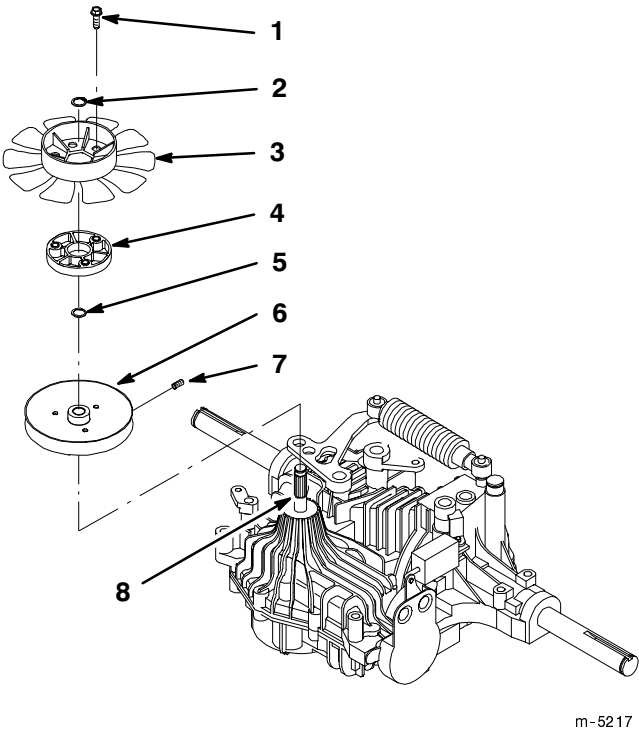

Figure 1
1. Locate input shaft on transaxle (Fig. 1).
2. Align splines on input shaft and pulley. Slide pulley onto input shaft and install set screw into pulley (Fig. 1).
3. Install washer onto input shaft (Fig. 1).
4. Install snap ring onto input shaft (Fig. 1).
5. Install fan spacer and align holes in spacer with holes in pulley (Fig. 1).
6. Install fan onto spacer and align holes in fan with hole in fan spacer (Fig. 1).
7. Install tapping screws into aligned holes in fan, fan spacer and pulley (Fig. 1).